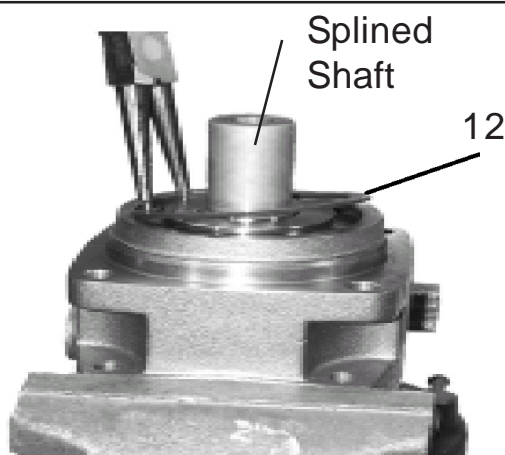

Figure 27
10. Install Seal Carrier Retaining Ring. Using Internal Snap Ring Pliers Install the retaining ring (item 12) into bearing housing. This will complete the lower end assembly. (See Figure 27) Remove the bearing housing from the vise and turn it over. Reinstall it into the vise with the gear end up. (See Figure 28)